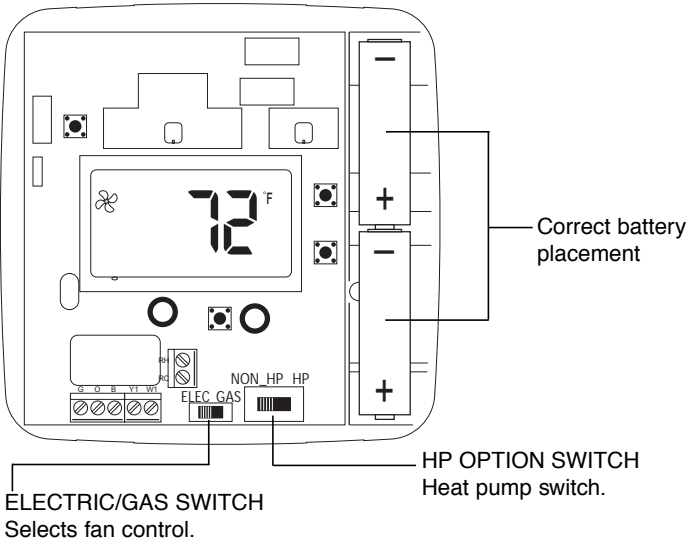

Figure 5
15. Set the Electric/Gas switch to either GAS for a gas/oil heating system or ELEC for an electric heating system (Figure 5).
16. Set the HP option switch to either the HP for heat pump or NON_HP for furnace applications (Figure 5).
17. Install two AA Energizer brand batteries or equivalent into battery compartment as shown (Figure 5).